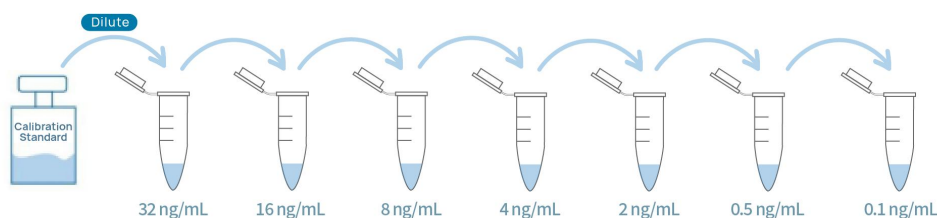

Figure 3. Graphic scheme of DNase I Calibration Standard Solution preparation
(3) Preparation of Calibration Standard Solutions
- Prepare DNase I Calibration Standard Solutions as indicated in Fig 3 and Table 3.